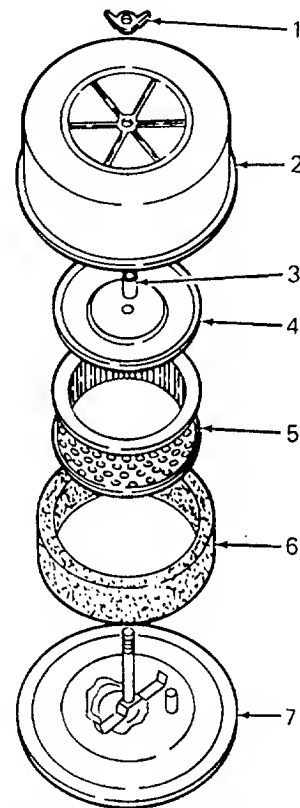

Figure 32. Air Cleaner Assembly
1. Remove wing nut and cover. (See Figure 32.)
liquid or attempt to blow dirt off with air hose as this will puncture filter element. Carefully handle new element — do not use if gasket surfaces are bent or twisted. Check the following when installing a new element: (See Figure 32.)